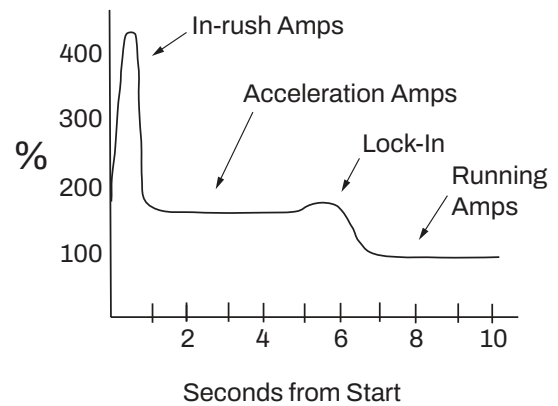

Figure 3 - Flow Charge Ratio
4. Push start button. Observe motor current during load acceleration and number of seconds required to reach full speed (Fig. 3).